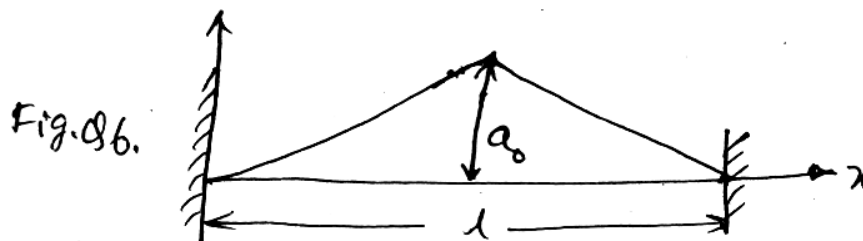

Fig. Q6.
- 6. A uniform string of length 'l' and a large initial tension S , stretched between two supports, is displaced laterally through a distance, ' a_0 ' at the centre as shown in Fig. Q6, and is released at $t = 0$. Find the equation of motion for the string.